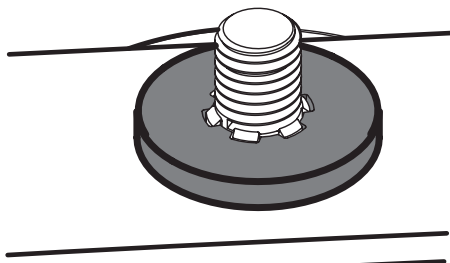

Figure 38
2. Carefully place the flat washer on the spindle shaft. Be sure that the splines at the base of the spindle shaft threads line up with the washer splines. See Figure 38.